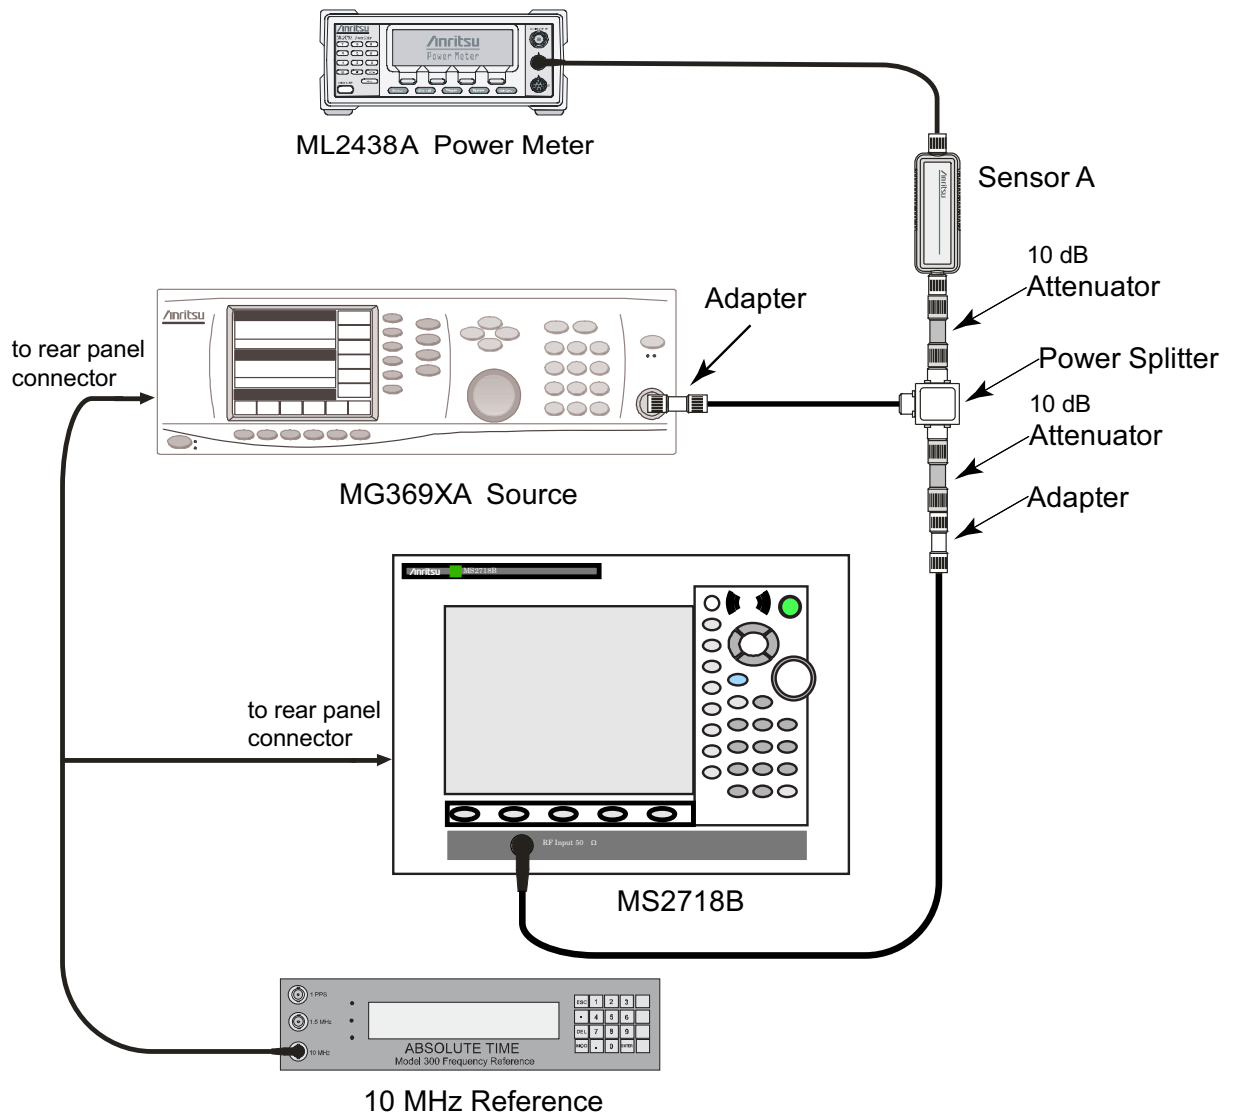

Figure 2-9. Test Setup for 9 kHz to 100 kHz Amplitude Accuracy Verification
1. Set the MS2718B, MS2719B to Spectrum Analyzer mode, and then press **Shift** and press **Preset (1)** to preset the MS2718B, MS2719B.
5. Connect the MS2718B, MS2719B to the test setup, as shown in Figure 2-9.